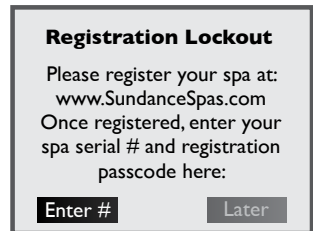
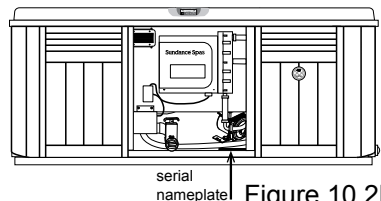

Figure 10.2a
Figure 10.2b
Registering your spa is important in order to validate your warranty, Figure 10.2a. In order to register you will need to have the spa serial number, Figure 10.2b, then you will need to register online in order to receive a passcode. The passcode must be entered on the control panel.
1. From the registration screen, Figure 10.2a, tap  to enter the spa serial number.